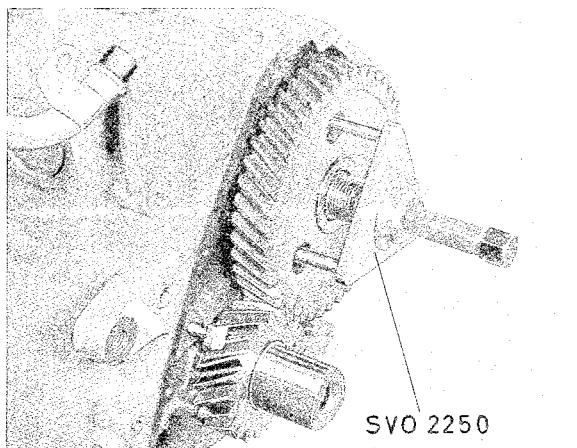

Fig. 2-31. Removing camshaft gear
4. Remove the camshaft nut and pull off the camshaft gear with puller 2250, see Fig. 2-31.